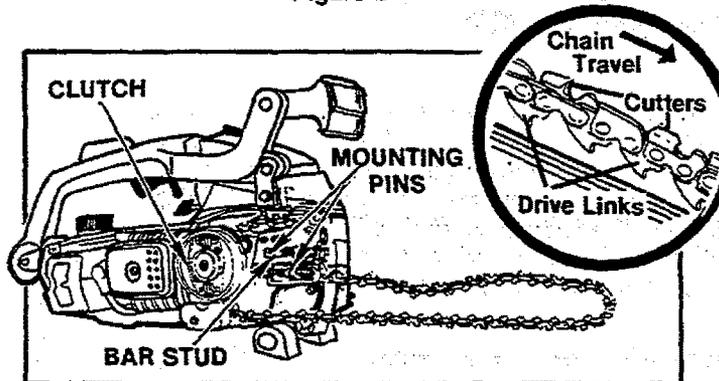

Figure 3
- Hold chain with cutters facing as shown in Figure 3.
- Place chain over and behind the clutch drum, onto the sprocket. Figure 3.
- Lower the Guide Bar; fit the adjusting pin into the round hole below the large slot; fit the large slot on the mounts on either side of the Bar Stud. Figure 3 and 5.